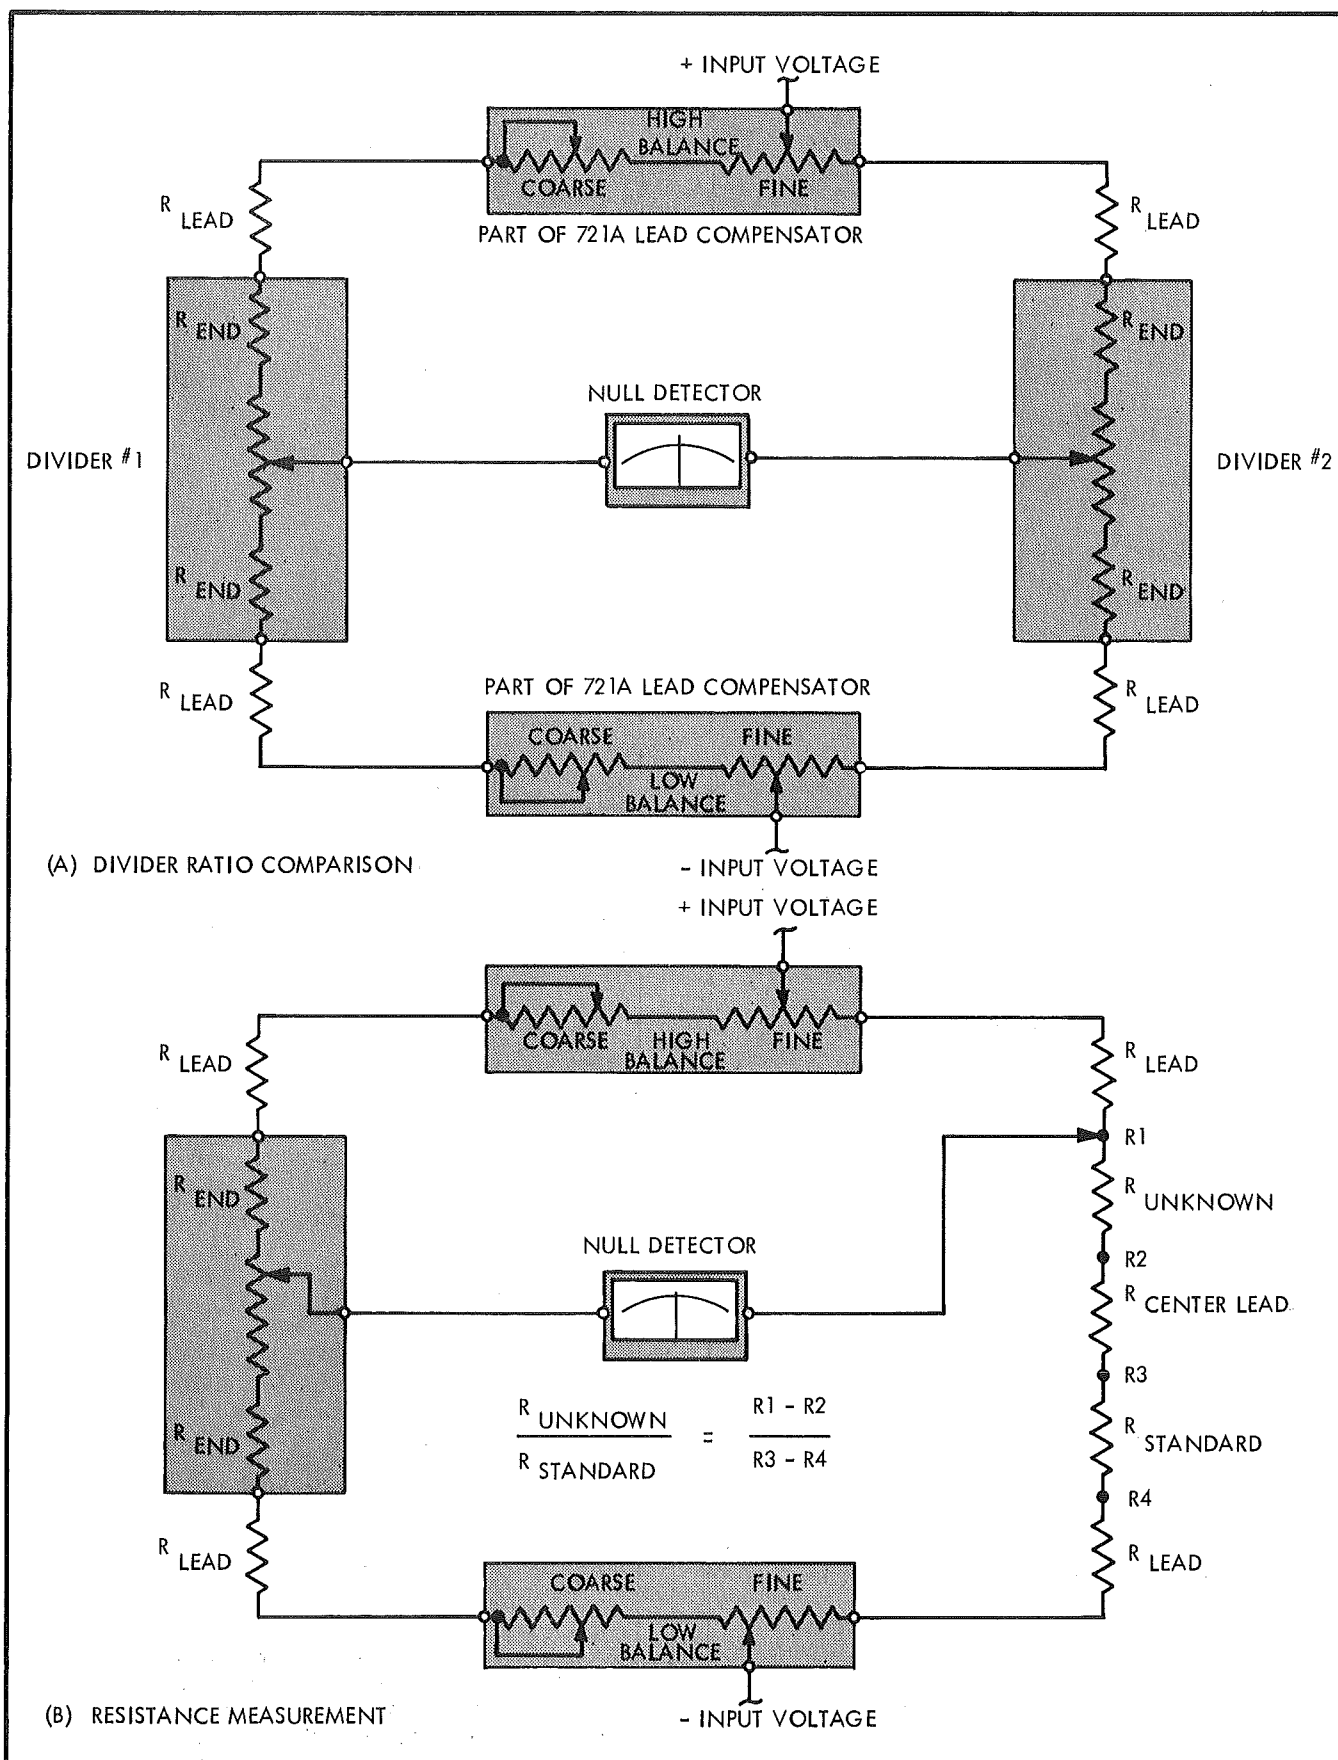

Figure 2-1. RATIO SYSTEM CONFIGURATION
2-19. The Model 721A Lead Compensator was designed to compensate for lead resistance and end resistance in a high-accuracy ratio system. Figure 2-1 shows the two basic configurations of such a system. Lead compensation is essential to accuracy of measurement in both. In Figure 2-1 (A), the ratios of two resistive dividers are compared. This is the typical setup used for divider calibration. The coarse compensation is added in series with the standard divider indicating that it has a higher input resistance than the test divider. If the input resistance of the test divider were higher, the coarse compensation would be switched to the other side. In Figure 2-1 (B), an unknown resistance is measured by using a standard divider to compare it to a standard resistor. Notice that the standard resistance and the unknown resistance form a voltage divider. For this type of measurement, the lead compensator is used to set point  $R_4$  equal to zero setting on the standard divider and to set point  $R_1$  equal to 1.0 setting on the standard divider. The standard divider settings at points  $R_2$  and  $R_3$  at null are then determined and used to compute the unknown resistance from the formula: